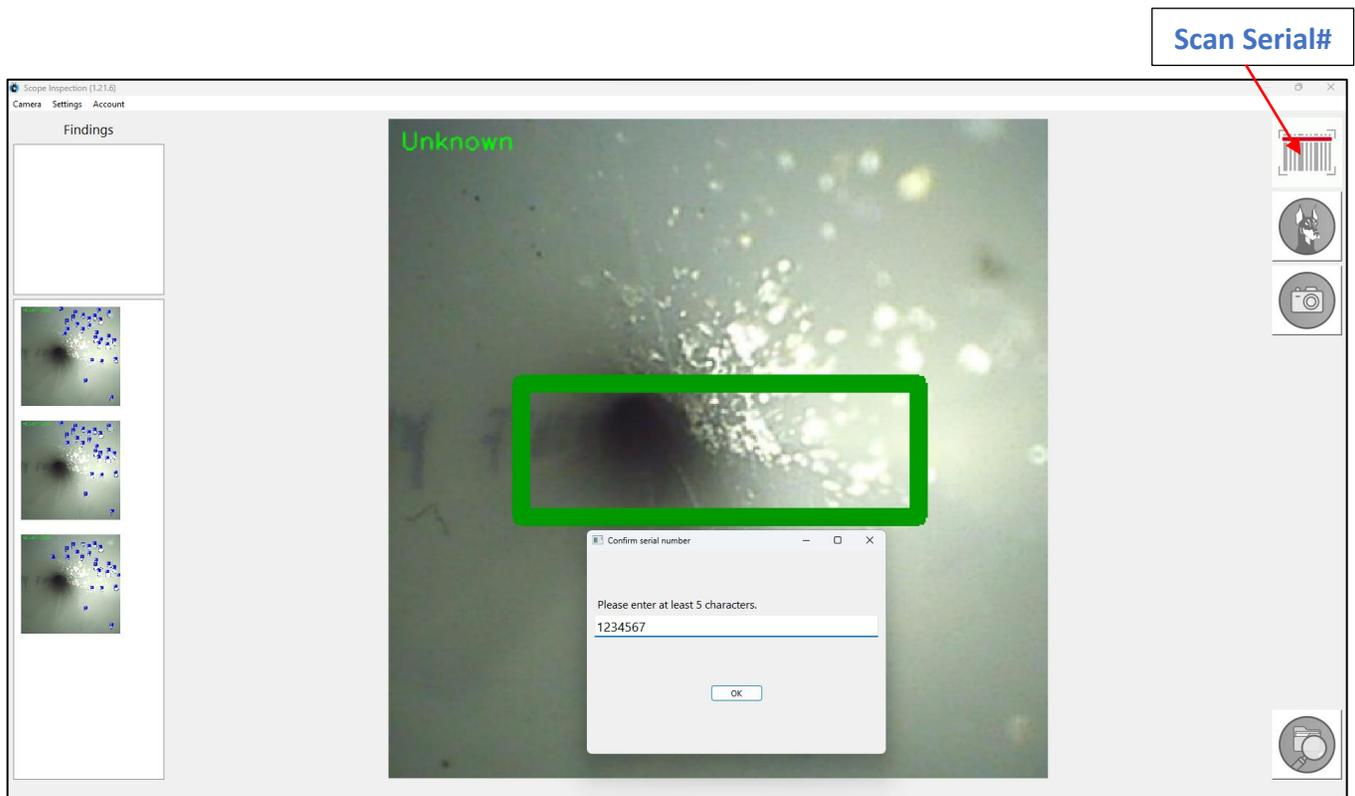
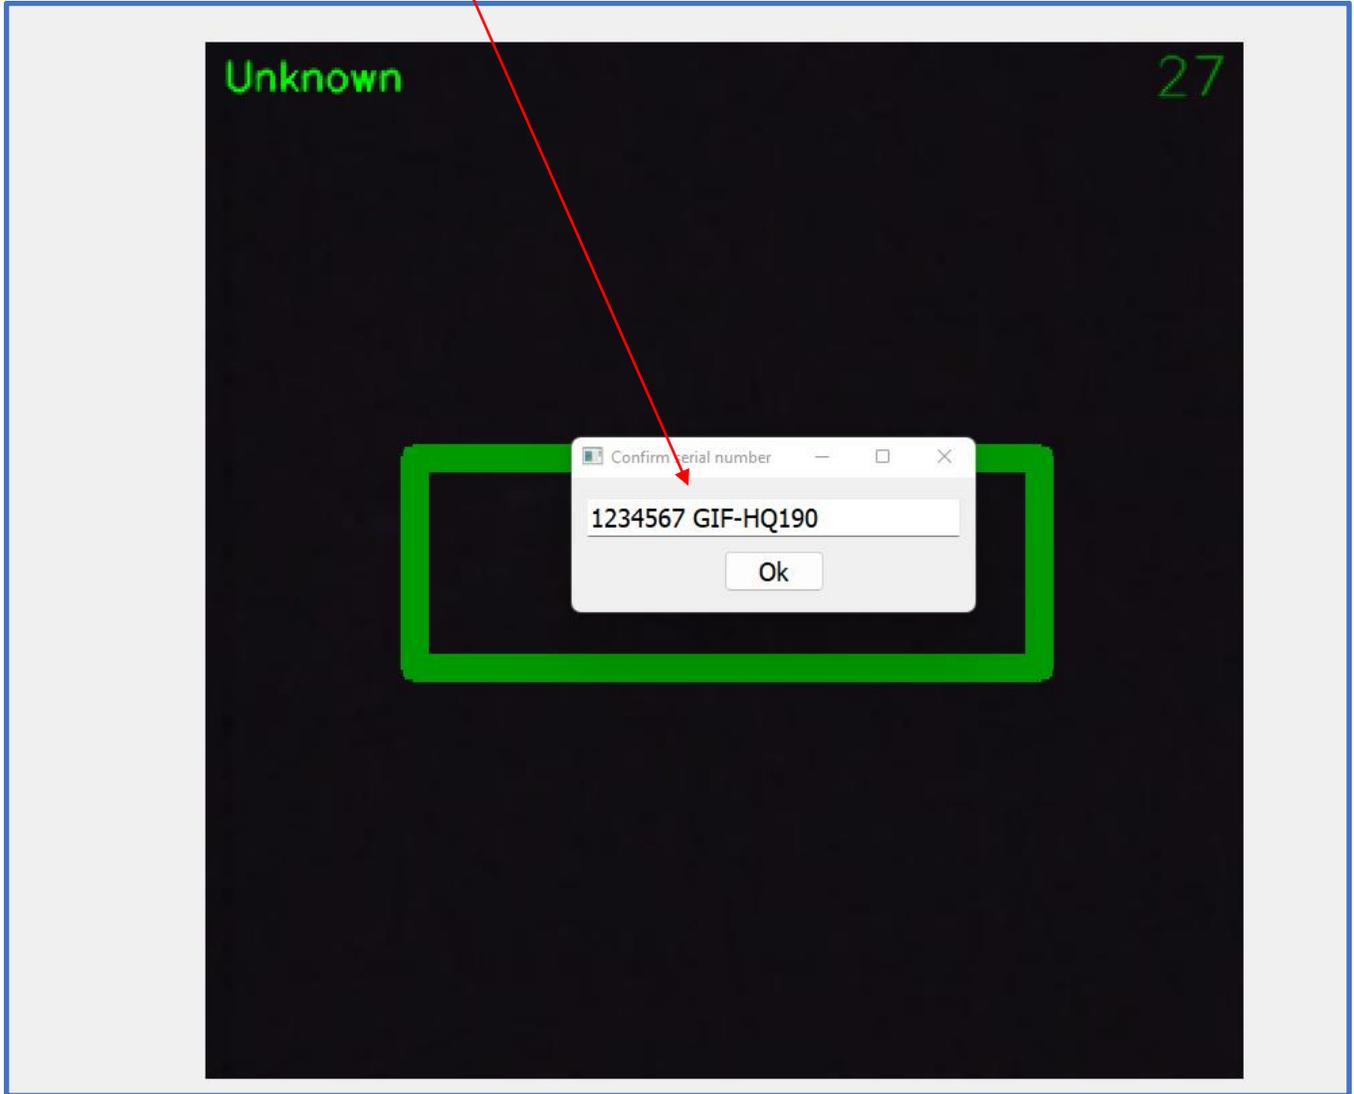

Figure 3
Figure 4
- i. Step 1 in performing an instrument inspection is to **scan the serial number** of the endoscope being inspected. Once the borescope is connected and the User Interface is active, point the borescope camera at the serial number tag on the endoscope; make sure that the serial number is lined up correctly in the main image window. Click on the **“Scan Serial Number”** button; you will see a green box appear in the main image window, as in the illustration (figure 4) below. Center the green box over the serial number – you will see the number appear in the upper right-hand corner of the main image window. When you are satisfied that the number is correct, click on the **“Scan Serial Number”** button again. You will then see a dialog box labeled **“Confirm serial number”**. You may manually enter or correct the serial number here. Make sure to also enter the model number of the scope to be inspected, then click **“OK”**; see Figures 3 - 5.